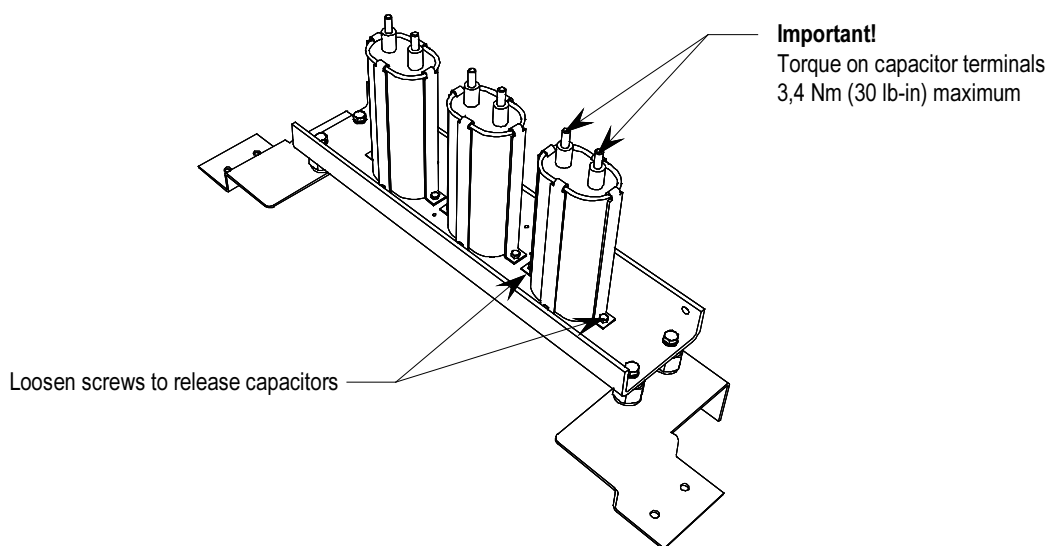

Figure 5.32 – Output Grounding Network
6. Replace the ring lugs and 6.4-mm ($\frac{1}{4}$ inch) hardware. (See Figure 5.32)